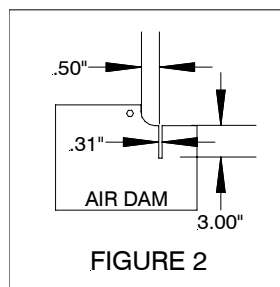

FIGURE 2
- E. Position L.H . (driver's side) side plate (2) slotted hole over air dam brace and fender support brackets. Attach side plate to vehicle frame using 5/8-11 x 3-1/2" carriage bolt (15), flat washer (21), and locknut (16). Also attach side plate at steering gear box using 7/16-14x4" bolt (22) and lockwasher (19).
- F. Position R .H . (passenger side) side plate (3) slotted hole over air dam brace and fender support brackets. Temporarily attach side plate to front of vehicle frame using three M-10 x 15P x 40MM bolts (23).
- G. Using side plate (3) as a template, scribe hole "A" onto vehicle frame.
- H. Remove side plate (3) and drill a 1 "diameter hole thru vehicle frame at scribe mark.
- I . Reattach side plate (3) using special bolt (11), locknut (17), button head torx bolt (25), flatwasher (20) and hexhead sleeve nut (24) .
**Note: Bolt (25) and hexhead sleeve nut (24) are required on '86 and later vehicles to provide clearance for the alternator with certain engine options. On pre '86 vehicles, use a 5/8-11 x 3- 1/2" bolt (15), 5/8 flatwasher (21) and 5/8-11 ESNA locknut (16) and install at this location. (In order to facilitate tightening of the carriage bolts on the side plates, it may be necessary to temporarily loosen the steering gear box at this point .)**
- K. Reattach bumper, side plates to front of vehicle frame using M10 x 1 .5P x 40MM bolts (23) .
- L. Install clevis frame (1) and air dam clip brackets (10) to side plates (2 & 3) using 5/8-11 x 2" bolts (12) and locknuts (16) . Note: Air dam clip (10) is not necessary on the 1984 thru 1991 model years.
- M. Clevis frame (1) should be pushed back as far as possible under the vehicle to remove slack in bolt holes. Tighten all nuts to proper torque as shown in torque chart, starting with the rear carriage bolt and working forward in the tightening process. If steering gear mounting bolts were loosened, retorque to 65 foot pounds.
- N. 1984 thru 1991 Vehicles: Notch air dam as shown in Fig. 2 and reattach to vehicle; replace previously removed fasteners.